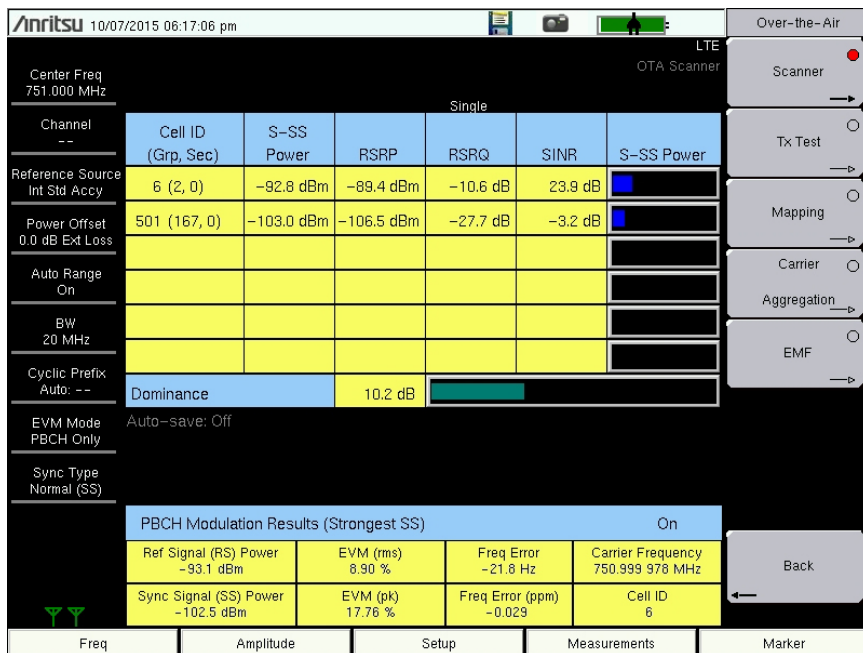

Figure 5-12. Over-the-Air Scanner Measurements
3. Press the **Scanner** submenu key to activate the OTA Scanner display. See Figure 5-12 on page 5-19. Press the **Scanner** key again to display the OTA Scanner menu.